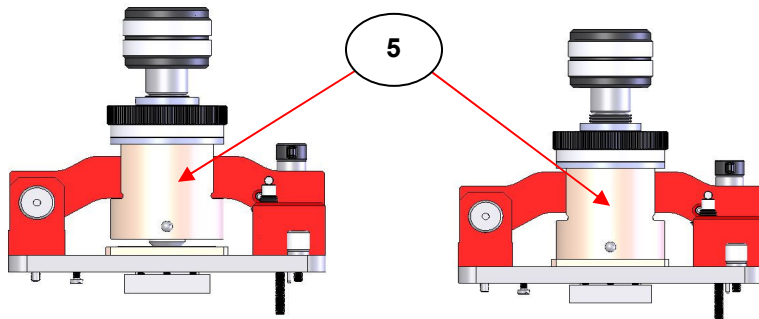

Fig 5. Heated Envirochamber Golden Gate™ PEEK Cap in Raised (Left) and Lowered (Right) Position
The difference between the PEEK cap (5) being fully raised and fully lowered can be seen in Fig 5.